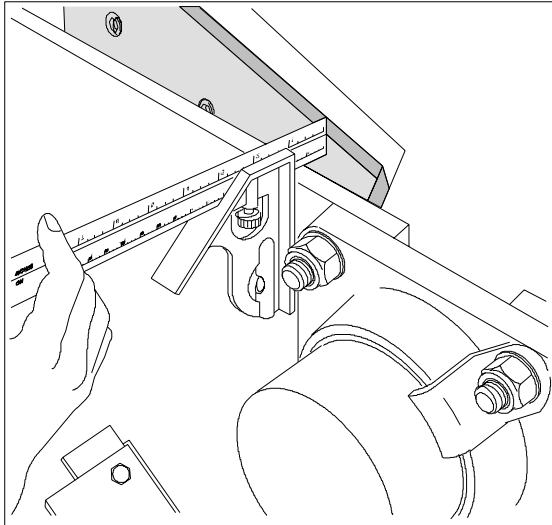

Fig. 30. Knife-to-chamber distance.
1. Measure the knife-to-chamber distances for both ends of the adjusted knife. The knife-to-chamber distance is the distance between the edge of the knife and the frame chamber – see Fig. 30.